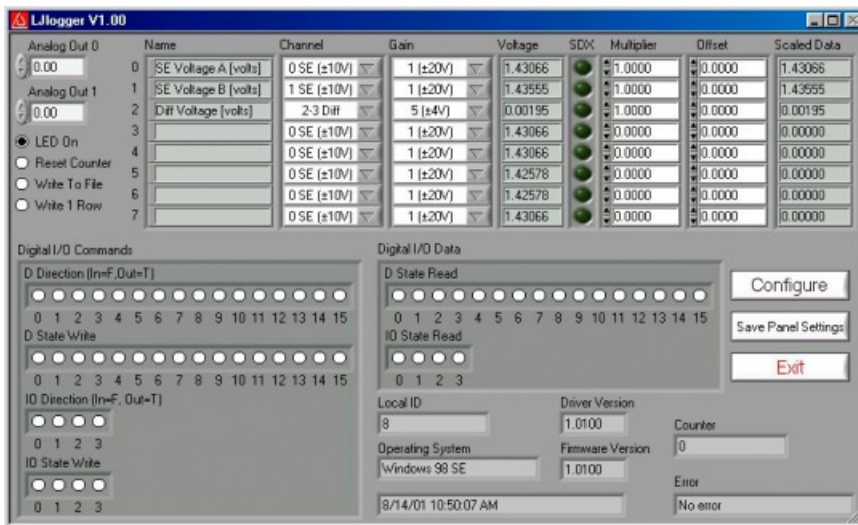

Figure 3-5. LJlogger
The main window for LJlogger is shown in Figure 3-5. The white colored items and the “SDX” buttons are controls to be edited/selected by the user. The grey colored items are indicators which display various information about the LabJack. Clicking the button labeled “Save Panel Settings” will save the current values of the controls as the default values.
Clicking the “Configure” button shown in Figure 3-5 brings up the window shown in Figure 3-6:
- **Trigger #0:** If the scaled data from analog input row 7 (Figure 3-5) is greater than 5, then set AO1 to 5 volts. Once triggered, there is a 10 second delay before it can be triggered again.